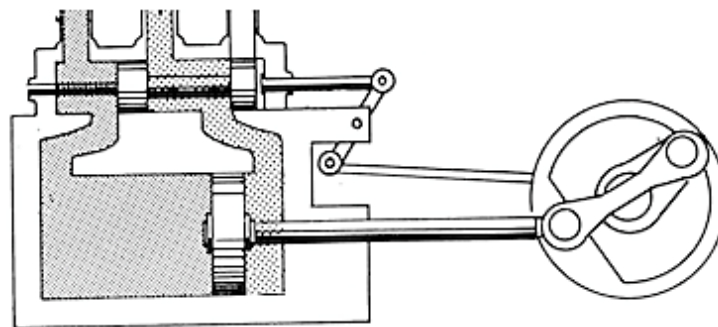

Figure 3: Steam crank assembly
b. Determine the reciprocating distance of a crank assembly in Figure 3, if the distance between the centre of the main journal of the flywheel and the crank pin is 54 cm.